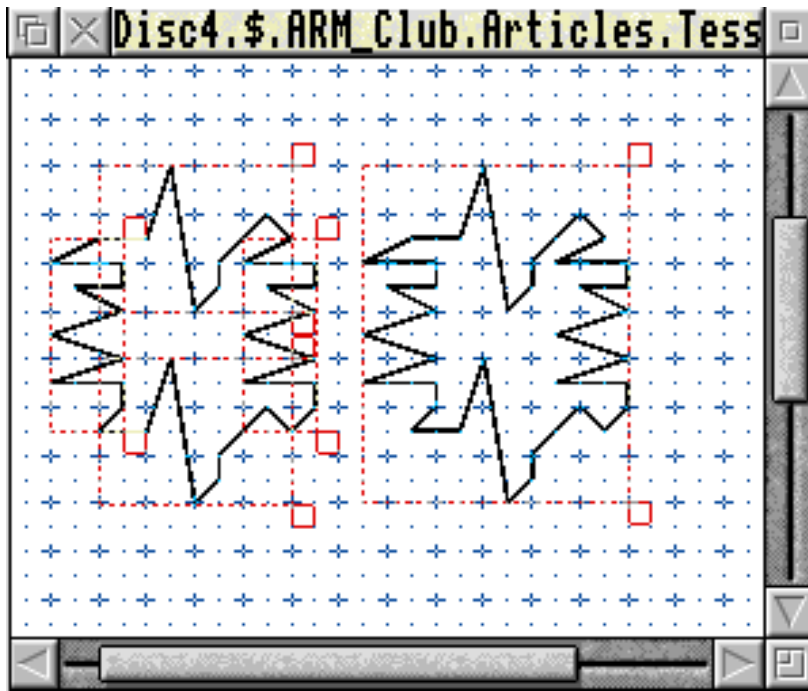

Figure 3
9. Start to Save this selection. Use the Save -> Selection menu option or simply press Shift+F3. Drag the Drawfile icon from the save box onto !OnePath on the icon bar. Another save box will appear saying "Drag Back" with the file titled OnePath. Do what it says and drag the file icon straight back into the Draw window, preferably away from your original lines. This new shape is now joined and complete and can be selected, copied, coloured, etc. (see fig.3)